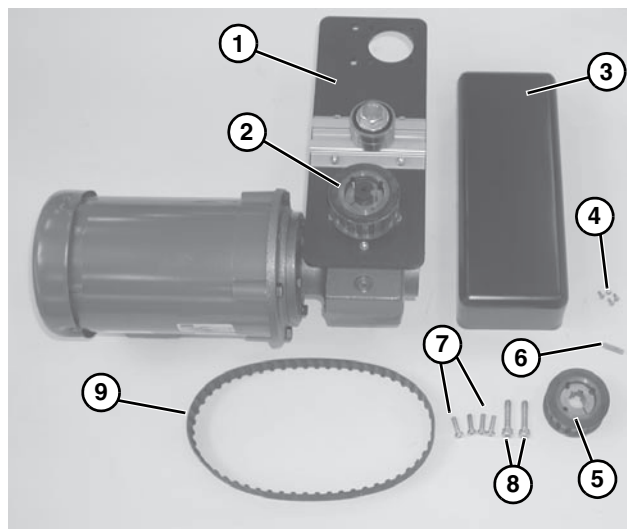

Figure 3
1. Typical components (Figure 3).